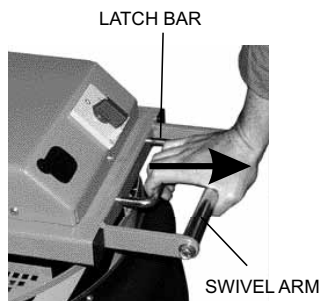

Figure 2. Pulling the Latch Bar
1. Stand in front of the mixer and grab the swivel arm and latch bar with one hand at the same time. See Figure 2.